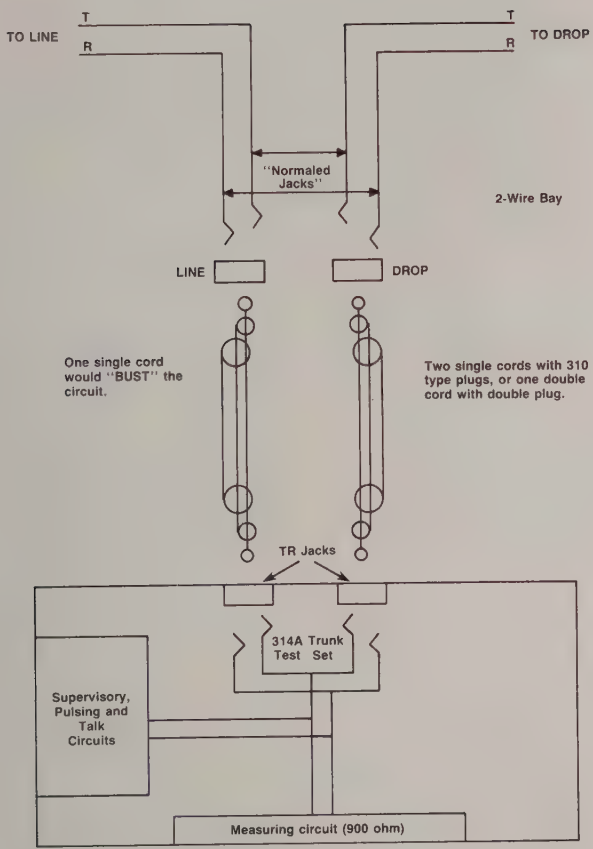

Figure 4. Connections to Test 2-Wire Circuits
3.28 Figure 4 shows the connections required for testing 2-wire circuits. As shown, use of only a single cord will "bust" the circuit. When using a double cord with double plugs, always plug into the 314A jacks first and the circuit access jacks last. When disconnecting, unplug from the circuit access jacks first and the 314A jacks last. This procedure avoids circuit interruptions.